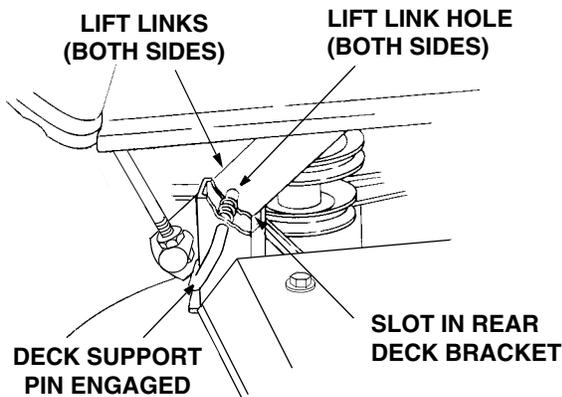

Figure 34
- Carefully guide the tractor implement lift links (left and right) into the rear deck bracket slots (left and right) as the tractor implement lift handle is lowered to its lowest setting (Refer to Figure 34).
- Pull both deck support pins outward and rotate rearward to disengage the outer surface of the rear deck brackets. Release the pins, making certain each deck support pin passes through the inner hole of the rear deck bracket. The spring tension will push the pins inward and, if aligned, through the hole in each implement lift link (Refer to Figure 34).